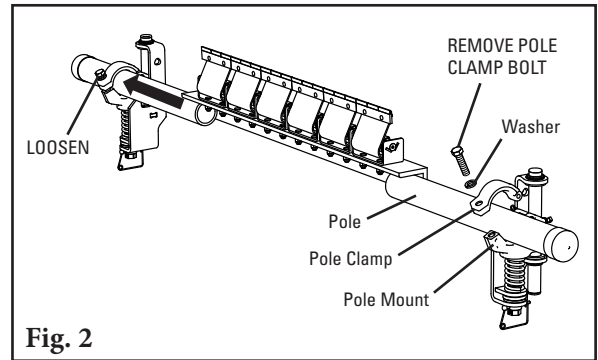

Fig. 2
5. **Replace the sleeve.** Position the sleeve over the adjusting rod and turn it until it is in the middle of the bushing. Replace the bottom tension nut and tighten until it locks the sleeve in place (Fig. 2).
- Install the pole.** Remove pole clamp bolt and lift or remove top half of pole clamp from the tensioner on the near side of the conveyor, and loosen pole clamp bolt on the opposite side. Slide the pole across the conveyor and through the loosened pole clamp, then place the near end of pole in remaining pole clamp (Fig. 2). Replace top half of pole clamp, reinstall the bolt and tighten both bolts finger tight.
- 2. Install the pole.** Remove the clamp block bolt from the access side clamp block and remove the upper half of the clamp block. On the opposite side clamp block, loosen the clamp block bolt enough to allow the pole to slide freely through (Fig. 2). Slide the pole across the belt, through the loosened clamp block, and locate into the cradle clamp block. Position the upper clamp block half over the pole and reinstall the clamp block bolt. Do not fully tighten.